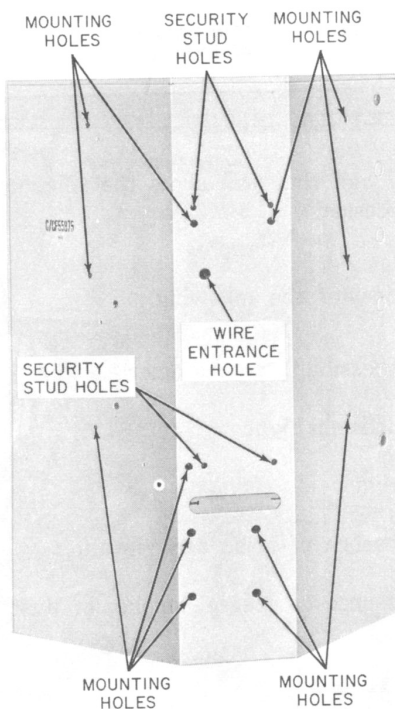

Fig. 8—Location of Mounting, Security Stud, and Wire Entrance Holes
3.03 Refer to Fig. 8 for mounting screw and security stud locations in the coin telephone.
- 3.18** Feed inside wire through wire entrance hole (Fig. 8) and connect to terminals T, R, and GRD on TB1. Dress wire away from door.